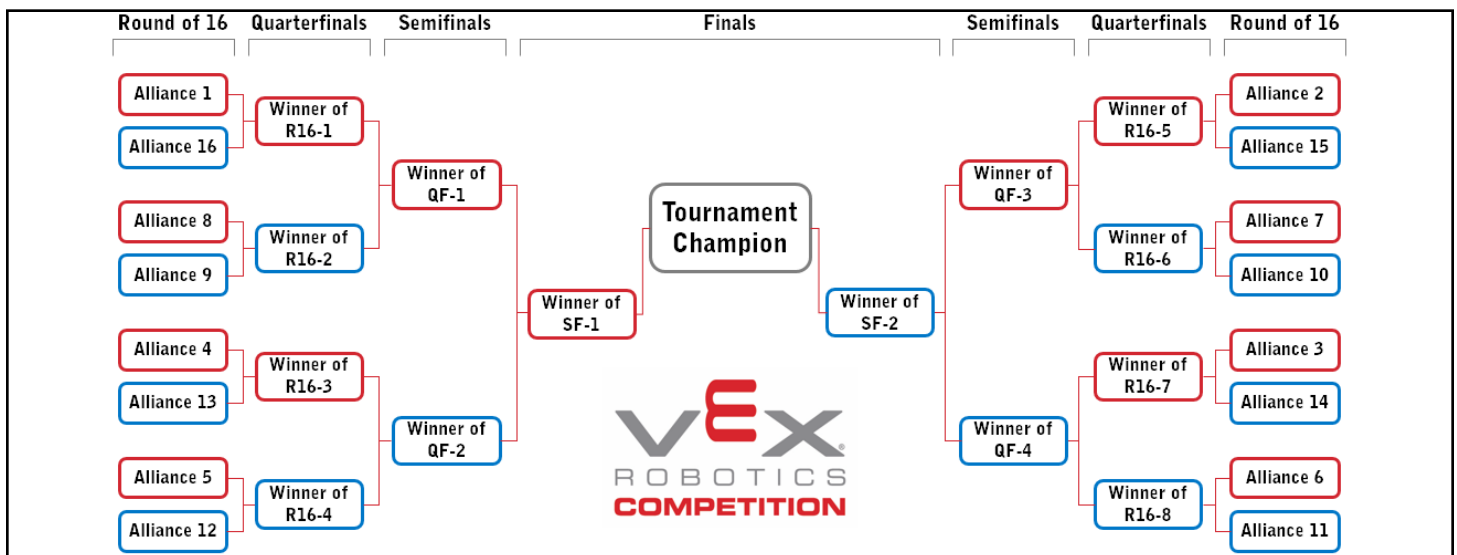

Figure T17-1: A 16-Alliance bracket
<T17> Elimination Matches follow the Elimination Bracket. A sixteen (16) *Alliance* bracket plays as shown in Figure T17-1, with *Matches* proceeding in numbered order through each round.
If an event is run with fewer than 16 *Alliances*, then they will use the bracket shown in Figure T17-1, with *Byes* awarded when there is no applicable *Alliance*. For example, in a *Tournament* with 12 *Alliances*, *Alliances* 1, 2, 3, & 4 would automatically advance to the *Quarterfinals*.